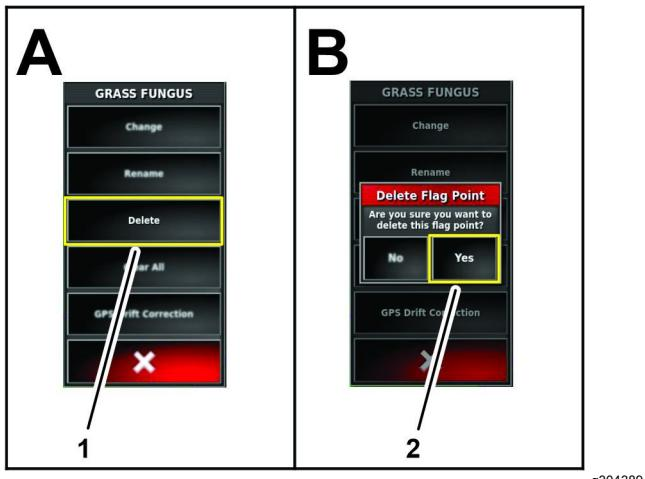

Figure 85
1. In the edit flag menu, press the DELETE icon (Figure 85).
2. In the delete flag point dialog box, press the YES icon (Figure 85).